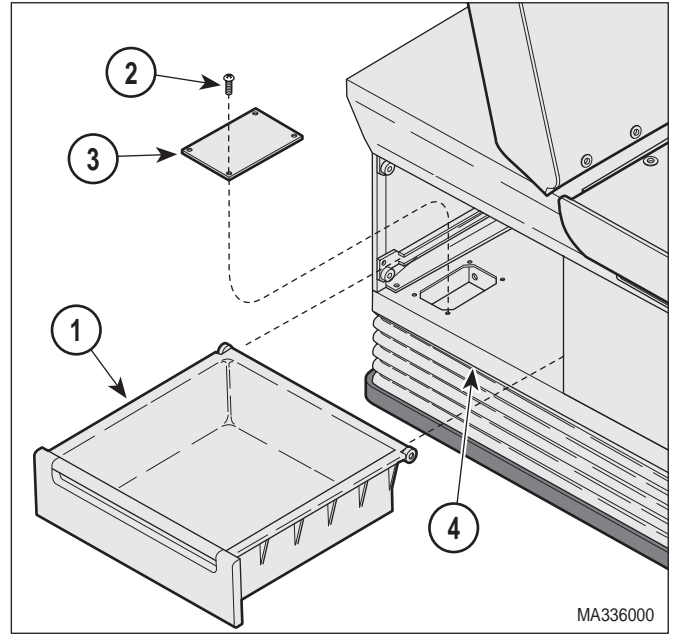
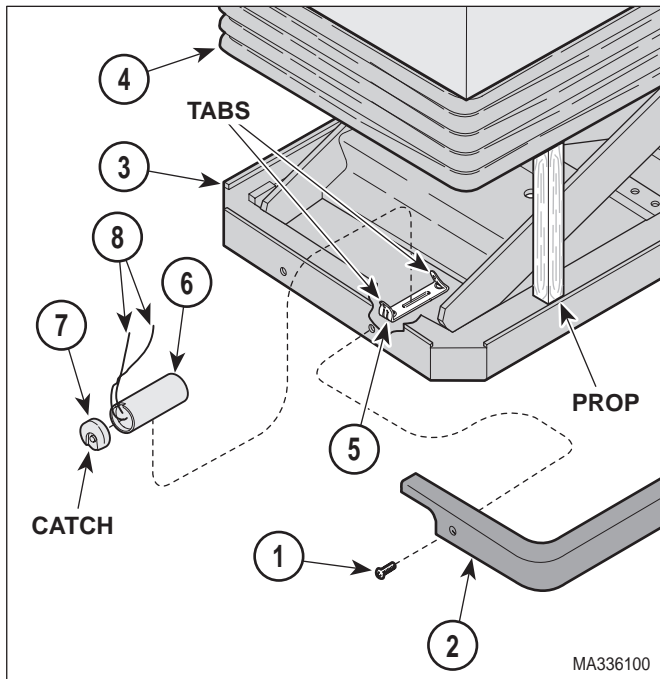

Figure 4-7. Cover Plate Removal / Installation
Figure 4-8. Base Capacitor Removal / Installation
- (2) If TABLE UP function *is not* operable, bypass the base capacitor (Refer to para 4.29); then go to step 4.
- (3) If TABLE UP function *is still not* operable, remove access plate as follows:
- a. Remove two side drawers (1, Figure 4-7) from table.
- c. Remove four screws (2) and cover plate (3) from upper base weldment (4) to gain access to base capacitor.
- (4) Remove four screws (1, Figure 4-8) and two bellows retainer trim (2) from lower base weldment (3).
- (5) Raise bellows (4) and support in the up position with a prop.
- (1) Connect one wire (8) to each terminal group of base capacitor (6).
- (2) Install capacitor cap (7) on base capacitor (6).
- (3) Position the bottom of base capacitor (6) on mounting bracket (5) and then push the top of the capacitor inward. Using a screwdriver, force the tab of the mounting bracket (5) down over the catch of the capacitor cap (7). Make sure base capacitor (6) is held firmly in place.
- (4) Remove prop and lower bellows (4).
- (5) Slide two bellows retainer trim (2) over the bottom of bellows (4). Secure bellows retainer trim (2) to lower base weldment (3) with four screws (1).
- (6) If removed, install access plate as follows:
- a. Install cover plate (3, Figure 4-7) on upper base weldment (4) and secure with four screws (2).
- b. Install two side drawers (1) in table.
- (7) If base capacitor was bypassed, remove bypass wires (Refer to para 4.29).
- (8) Plug power cord into wall outlet.